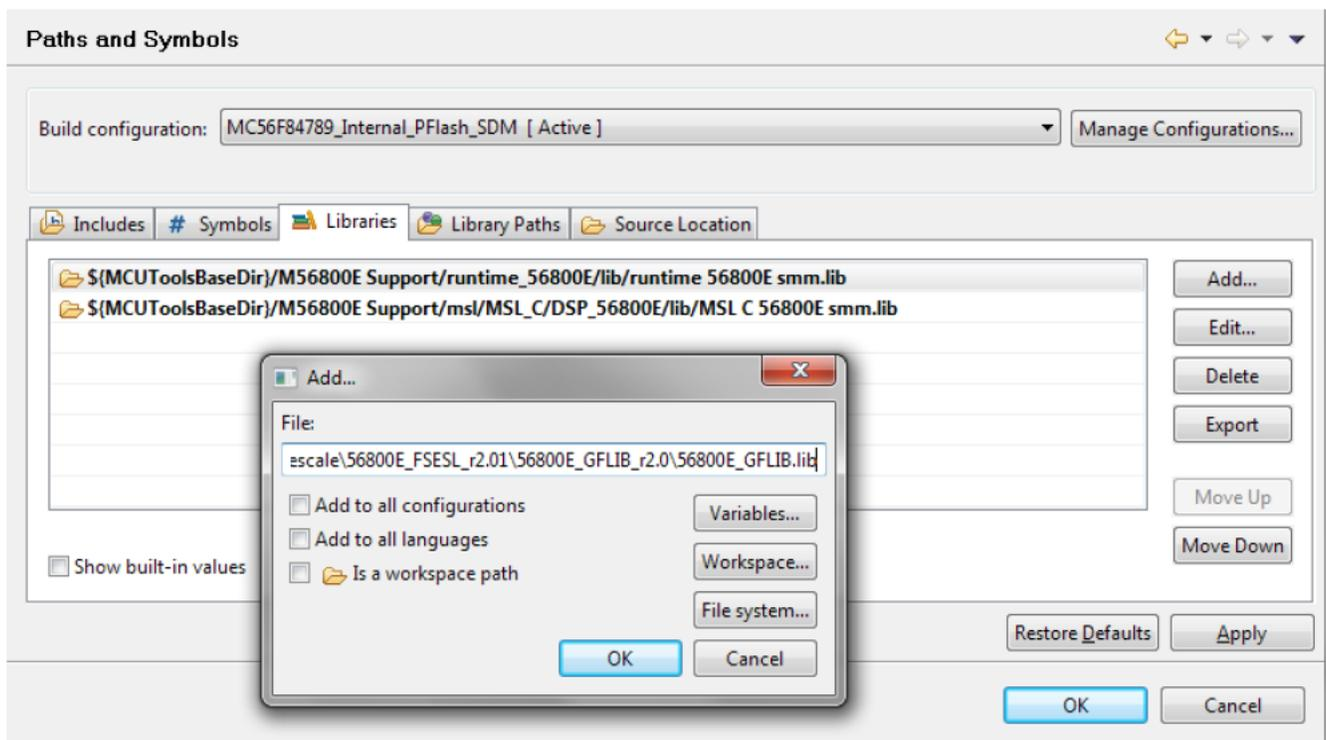

Figure 7. Projects libraries paths
4. In the dialog which appears, look for the library file 56800E_GFLIB.lib, by clicking 'File system...' or just typing the following path into the box: C:\Freescale\56800E_FSESL_r2.01\56800E_GFLIB_r2.0\56800E_GFLIB.lib and click OK. Now, the library file is displayed in the table. See Figure 7.